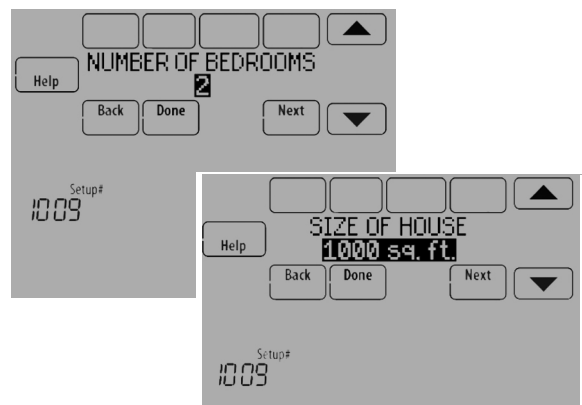

Fig. 161.
5. If ASHRAE was selected for ISU 1005, select the Number of Bedrooms and Size of House. See Fig. 161.